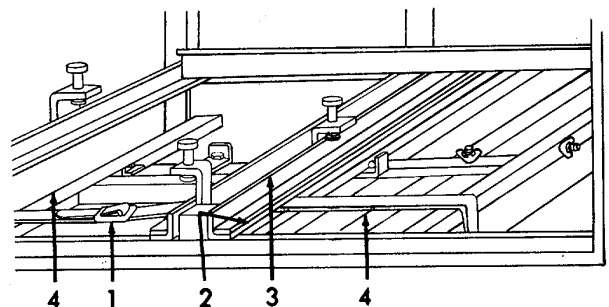

Figure 2-7. Folding Stands, Removal.
(3) Refer to Figure 2-7. Unfasten the hold down straps (1).
(4) Remove the pin (2) and then remove the cross brace (3) from the cabinet.
(5) Remove the folding stands (4) from the compartments.
(6) Replace cross brace and pin.
(7) Repeat steps (3) through (6) for other side.